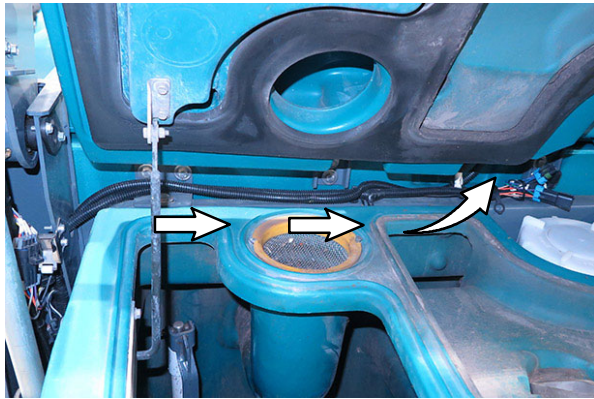

FIG. 20
27. **M20/M30 Only:** Route blue spotlight harness (14) rear blue light lead along back of solution tanks and up through the channel in the solution tank and to the blue LED spotlight (1) assembly installed on the solution tank. (Fig. 20)